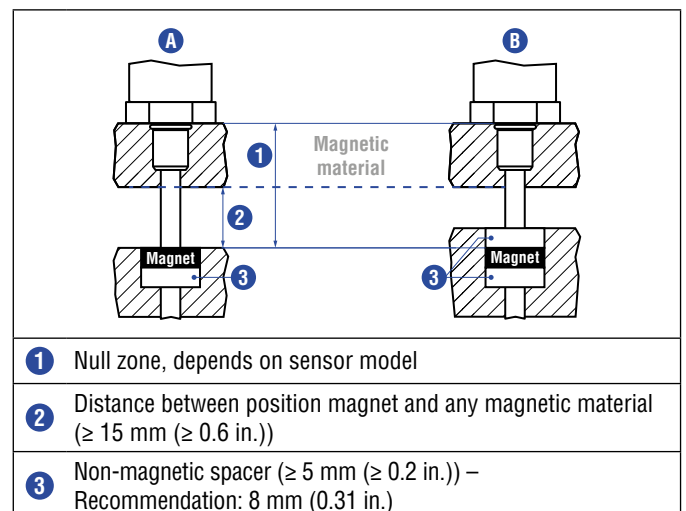

Fig. 48: Installation with magnetic material
- Minimum distance between position magnet and any magnetic material has to be 15 mm (0.6 in.) (Fig. 48)
- If no other option exists and magnetic material is used, observe the specified dimensions (Fig. 48)
When using magnetic material the dimensions of Fig. 48 must be observed.